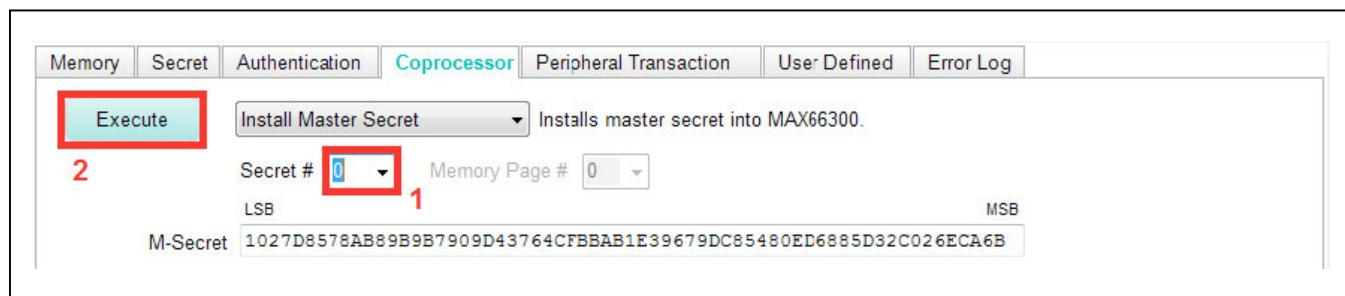

Figure 29. Execute M-Secret
- 25) Go to the **Secret #** drop-down box selecting '0' and click the **Execute** button to load the M-Secret (Figure 29).